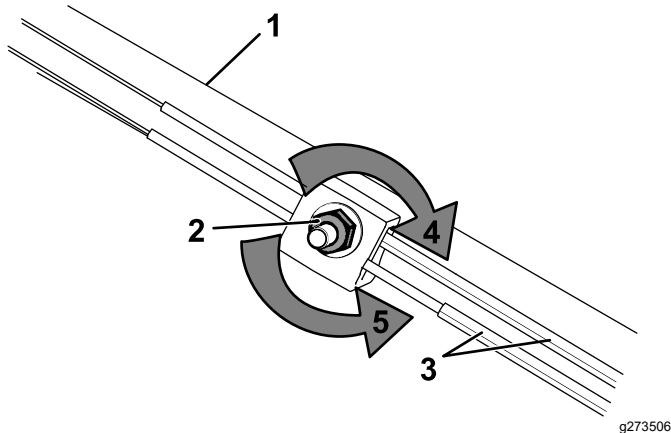

Figure 31
1. Turn the adjustment nut counterclockwise to loosen the cable adjustments (Figure 31).
2. Adjust the tension on the cables (Figure 31) by pulling them back or pushing them forward and holding that position.